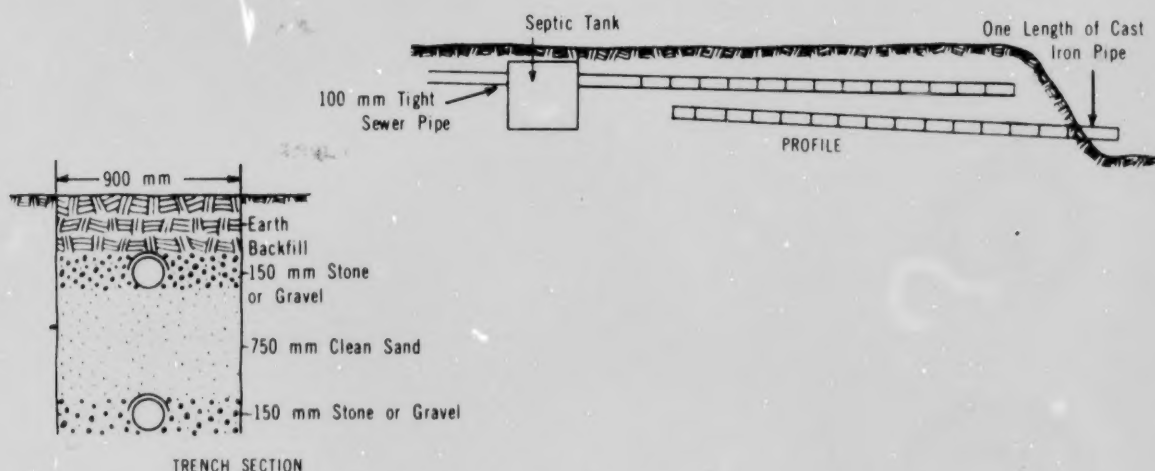

Figure 24-18. Artificial Sand Filter
c) *Artificial sand filters* are permitted in some localities where the filtered effluent may be discharged into a permissible natural outlet. The sand around the upper distributing tile (Figure 24-18) may become clogged and require replacement from time to time. A minimum of 760 mm of sand is necessary to filter the effluent sufficiently before it enters the lower line of tile (one line of tile is directly above the other). The profile or longitudinal section shows the relative positions of the tile in the hillside, with the cast iron pipe projecting into the gulley. The trench section at the left of Figure 24-18 illustrates how the field tiles with covered open-end joints are arranged in a bed or stone with a layer of sand between.